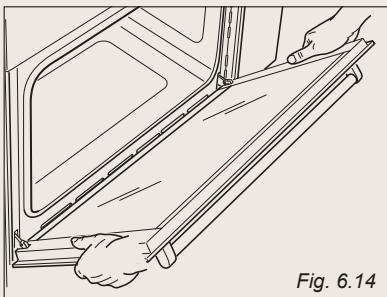

Fig. 6.14
- \* Hold the door as shown in fig. 6.14.